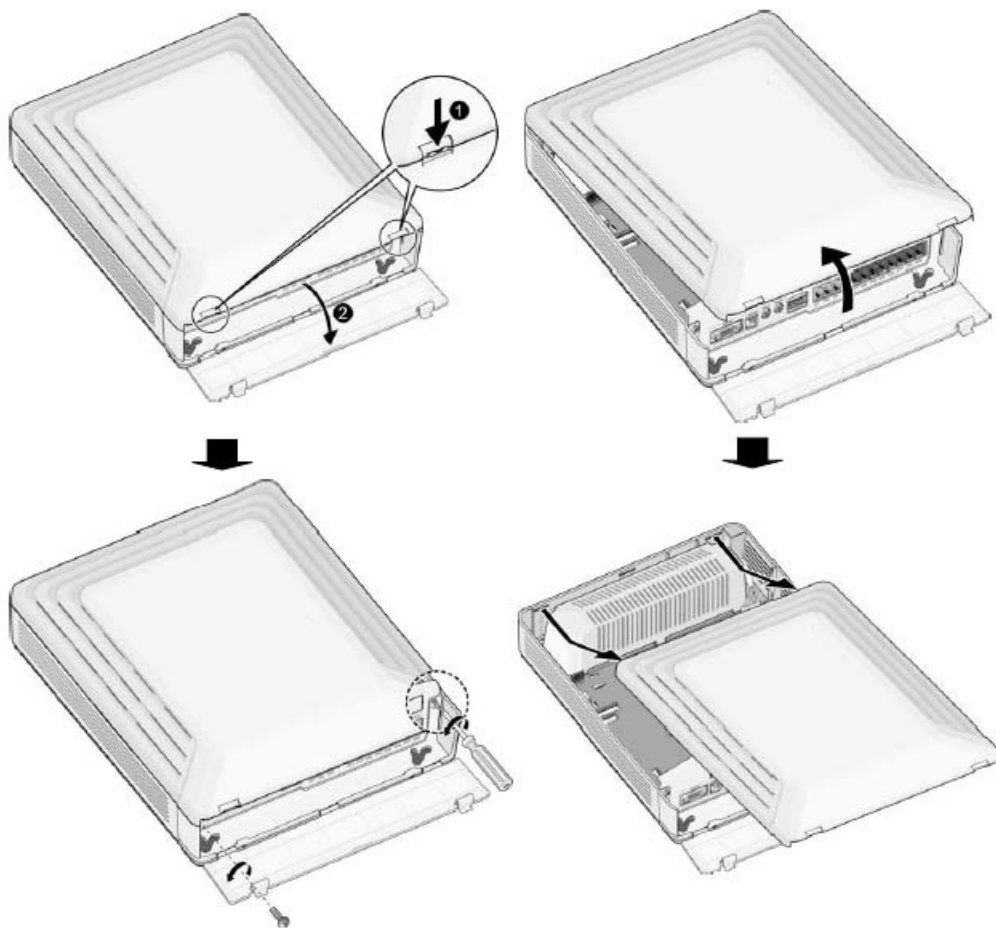

Figure 3-1 Opening the front cover
1. Open the cord cover, and turn the screws counter-clockwise to loosen (as shown in Figure 3-1).